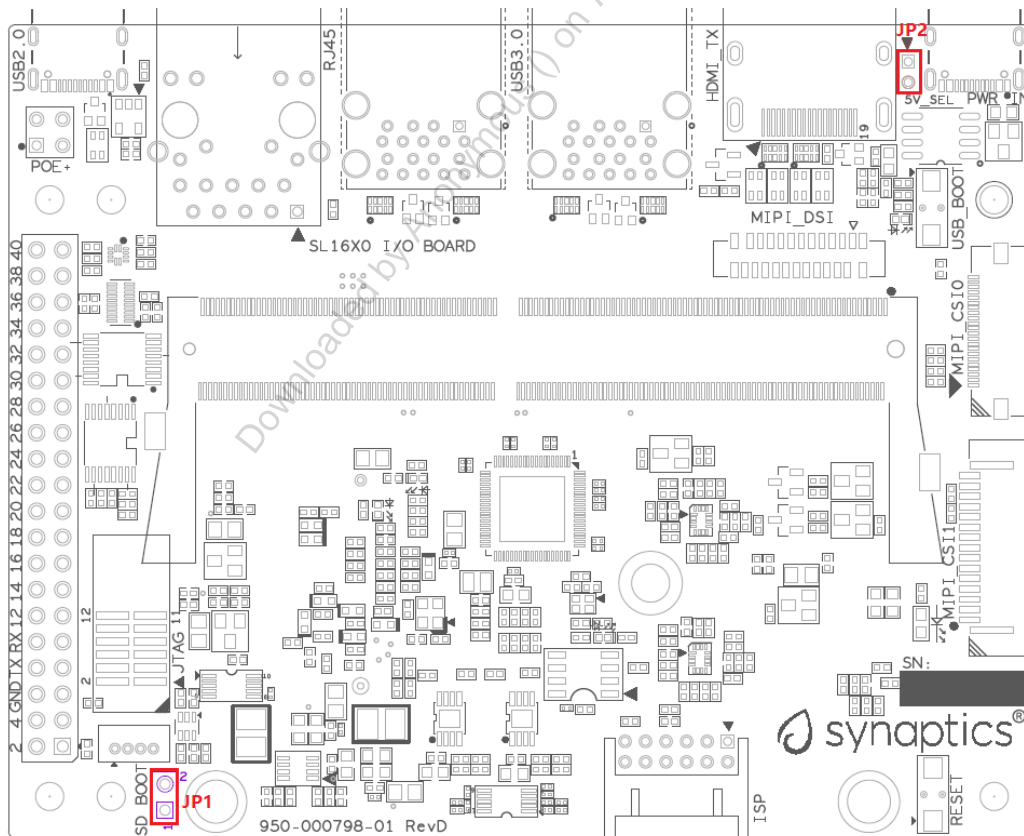

Figure 9. Locations of jumpers on I/O board
- **SD boot:** Short SD\_Boot header by 2.54mm jumper-cap before power-up, see SD\_Boot header in Figure 9. Ensure SD-Card with firmware is plugged into SD-slot on core module in Figure 10.
Figure 9 shows the Header locations on the I/O board.